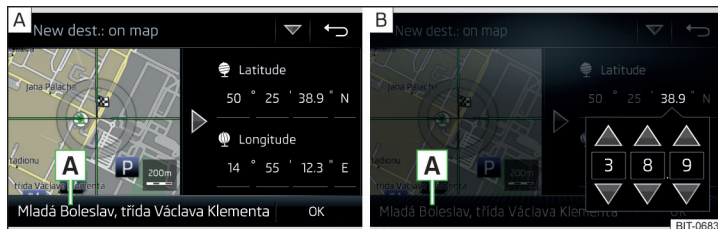

Fig. 202 Enter destination: via the map point / using GPS coordinates
- › By sliding the screen move the desired destination into the cross-hair » Fig. 202 - [\[A\]](#).
- › The function surface with the desired GPS value coordinates for latitude and longitude » Fig. 202 [\[B\]](#).
If information is available about the point entered in the navigation data, then these will be displayed instead of the GPS coordinates (e.g. address [\[A\]](#) » Fig. 202).